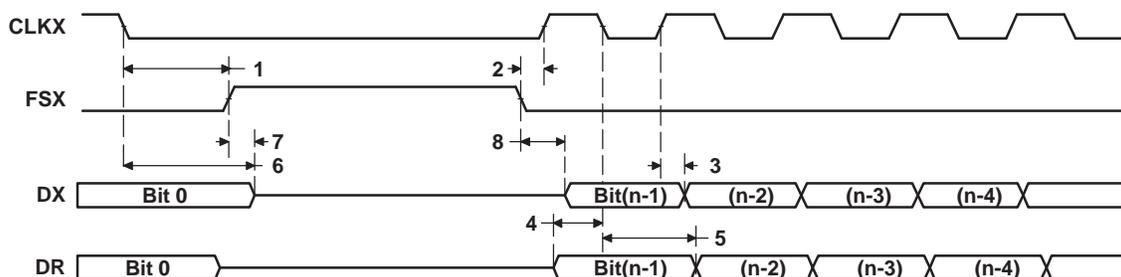

Figure 5-43. McBSP Timing as SPI Master or Slave: CLKSTP = 11b, CLKXP = 1
**5.12.6 Timing Requirements for McBSP as SPI Master or Slave: CLKSTP = 11b, CLKXP = 1(1) (2)(see Figure 5-43)**